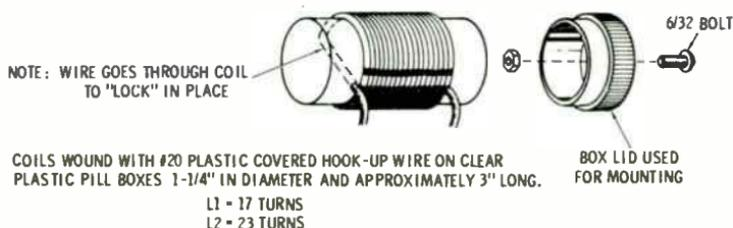

Fig. 6-8. Coil winding details.
- Connect the free end to pin 4 of SK2. (DS)
- Connect .01- $\mu$ F capacitor C9 to pin 4 of socket SK2. (S)
- Connect the other end of capacitor C9 to soldering lug SL4. (S)
- Solder a 3-inch length of wire to terminal U1. (S)
- Connect the other end of the wire to terminal T2. (DS)
- Connect one end of choke RFC to pin 3 of socket SK2. (DS)
- Connect the other end of the choke to terminal T2. (DS)
- Connect one end of .005- $\mu$ F capacitor C12 to pin 3 of socket SK2. (S)
- Connect the other end to terminal X1. (DS)
- Mount the two coils L1 and L2 in their respective positions. Notice that the coil form with the fewer turns (L1) is the one closer to the panel. (See Fig. 6-8 for coil detail.)
- Connect one lead of coil L1 to terminal X2. (DS)
- Connect one lead of coil L2 to terminal X2. (DS)
- Connect the other lead of L1 to the stator (stationary plate) terminal on the variable capacitor VC1. (DS)
- Connect the free lead of coil L2 to terminal X3. (DS)